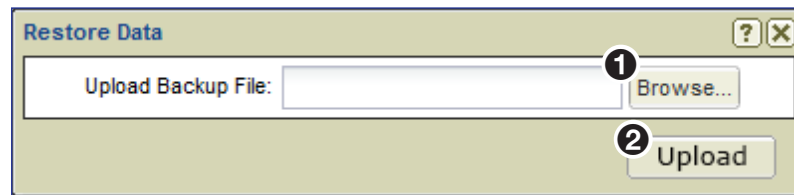

Figure 182. Restore Data Dialog
3. Select **Browse** (see figure 182, ①)
The **Restore Data** dialog reopens (see figure 182)
6. Select **Upload** (see figure 182, ②). The restore begins immediately.